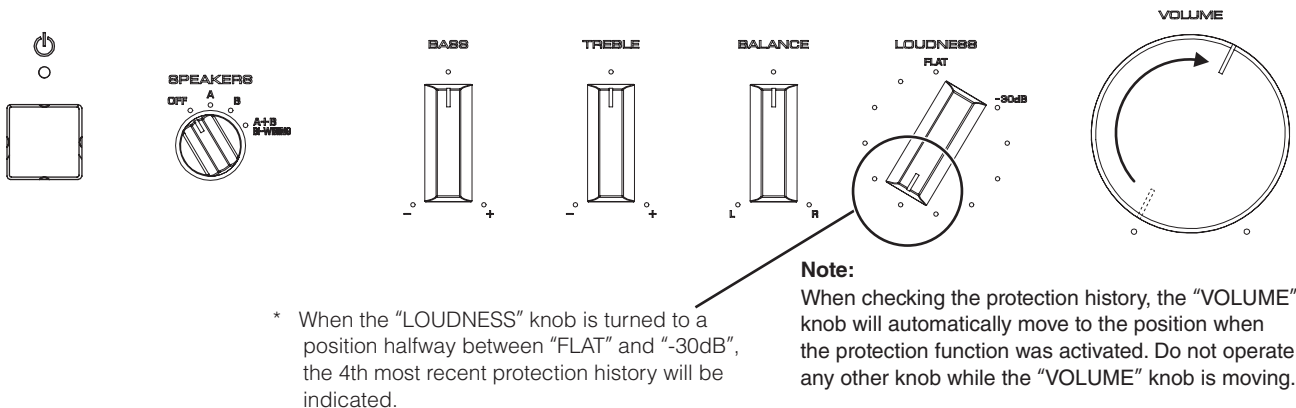

Fig. 7
- \* When the "BASS", "TREBLE" and "BALANCE" knobs are set to their top positions and the "LOUDNESS" knob is set to "FLAT", the most recent protection function (the same as that indicated by turning the "BASS" knob) is indicated by the "⏻" (power) indicator. However, the "VOLUME" knob will not move at this time. The "VOLUME" knob will move if a protection history is selected with one of the knobs. (Fig. 7)